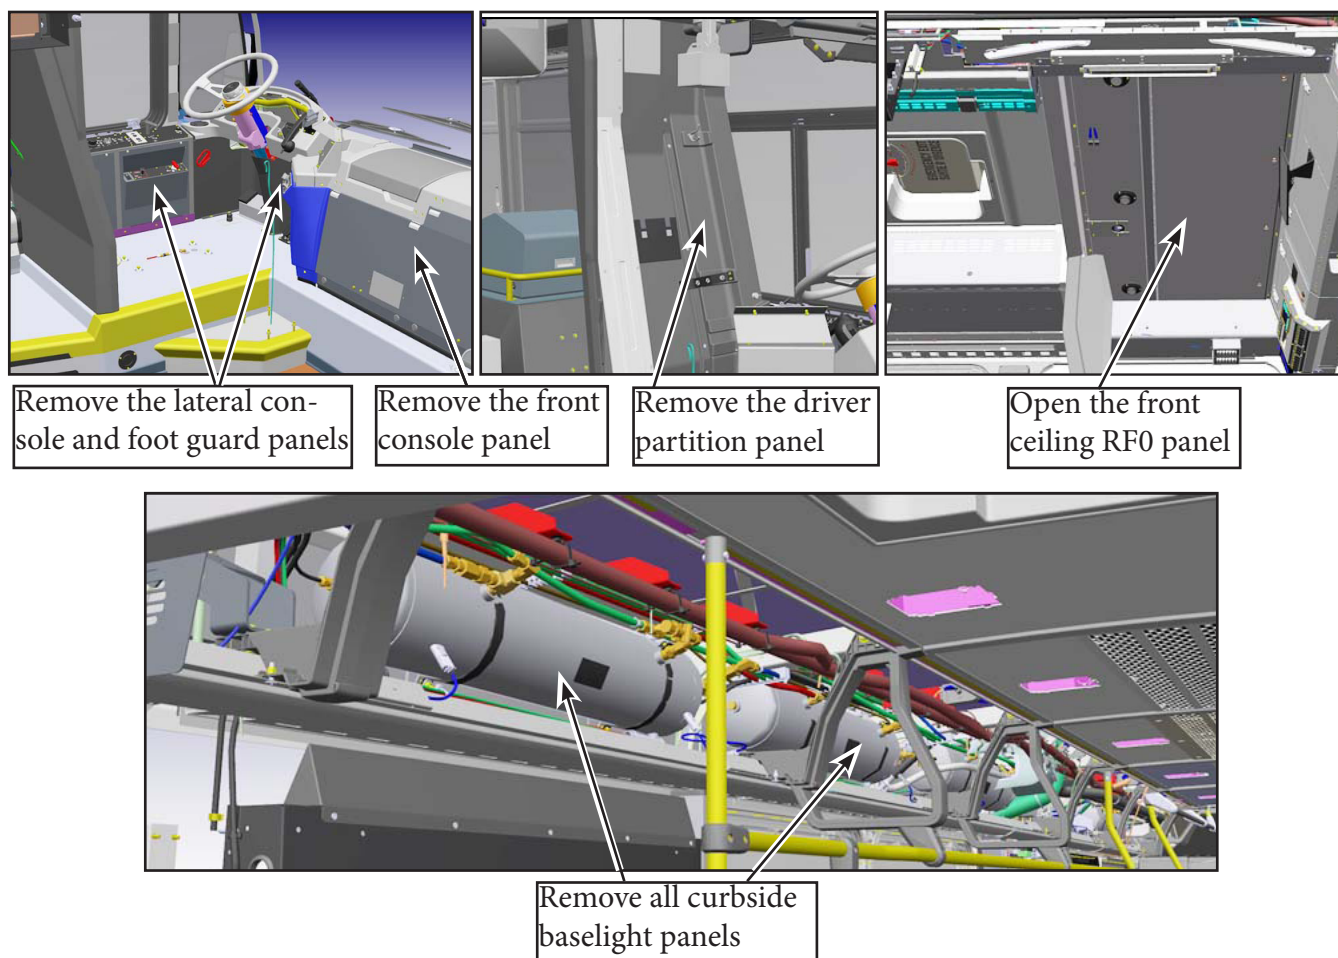

Figure 17 - Remove Panels
- 2.4. Remove the following panels for access prior to routing the front-to-back cable wire kit: lateral console panel, foot guard panel, front console panel, driver partition panel, and all curbside baselight panels. Open the front ceiling RF0 panel (see Figure 17).